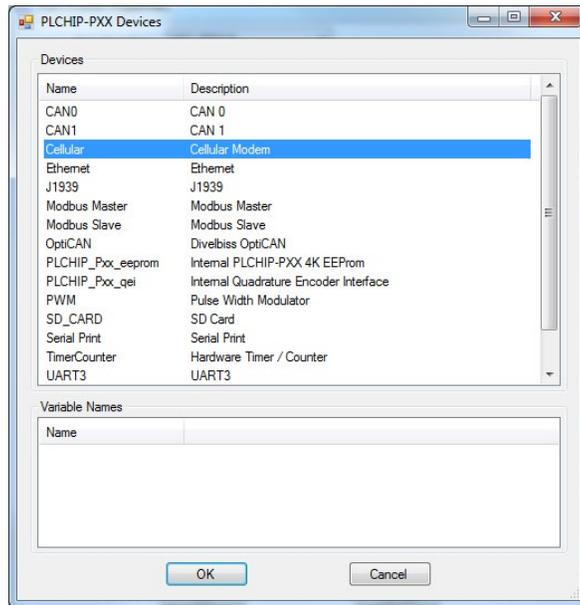

Figure 2-56 - PLCHIP-PXX Devices - Cellular
4. Click / select **Cellular** (highlight). Refer to Figure 2-56. Click **OK**. The **Cellular Properties** window will open identifying UART1 as the interface for the Cellular Modem. Click **OK**.